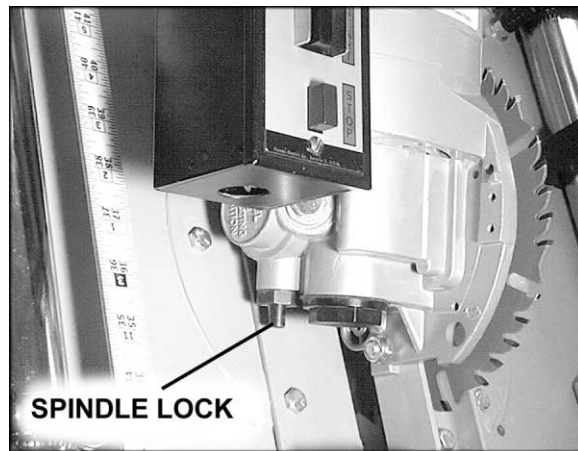
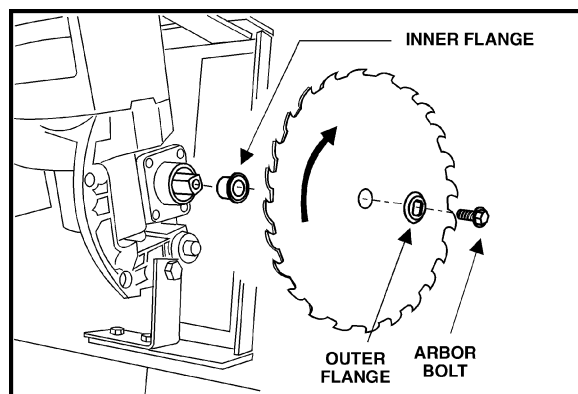

Figure 14
Figure 15
- Engage spindle lock (Figure 14) on the motor to keep spindle from turning. Use the wrench provided to loosen and remove the arbor bolt (NOTE: left hand threads, turn clockwise to loosen). See Figure 15.
- Remove outer flange, blade, and inner flange. See Figure 15.
- Re-install inner flange, and install new blade with arrow pointing as shown in Figure 15. Reinstall outer flange and tighten arbor bolt with wrench.